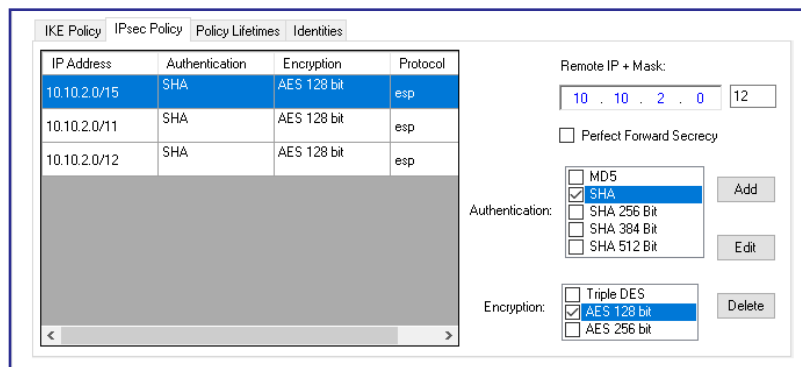
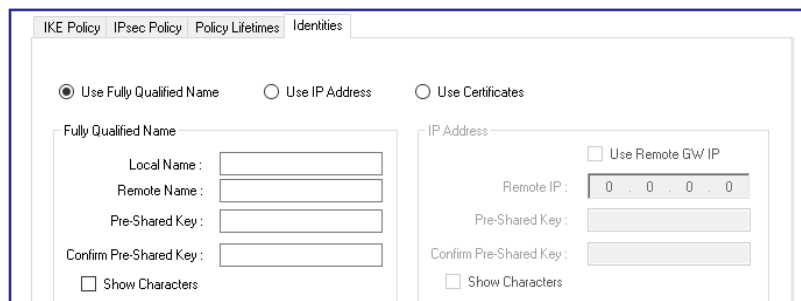

Figure 3-20 IPsec General Settings – IPsec Policy Tab
Figure 3-22 IPsec General Settings – Identities Tab
5. Enter the required settings in the IPsec General Settings screen tabs (Figure 3-20 through Figure 3-22).